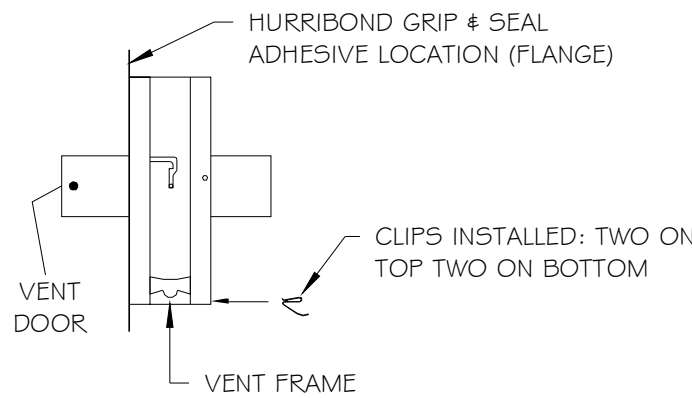

FIGURE 2
- APPLY A BEAD OF HURRIBOND GRIP # SEAL OR EQUIVALENT ADHESIVE AROUND THE BACK OF THE FLANGE ON THE VENT FRAME. (FIG. 2)